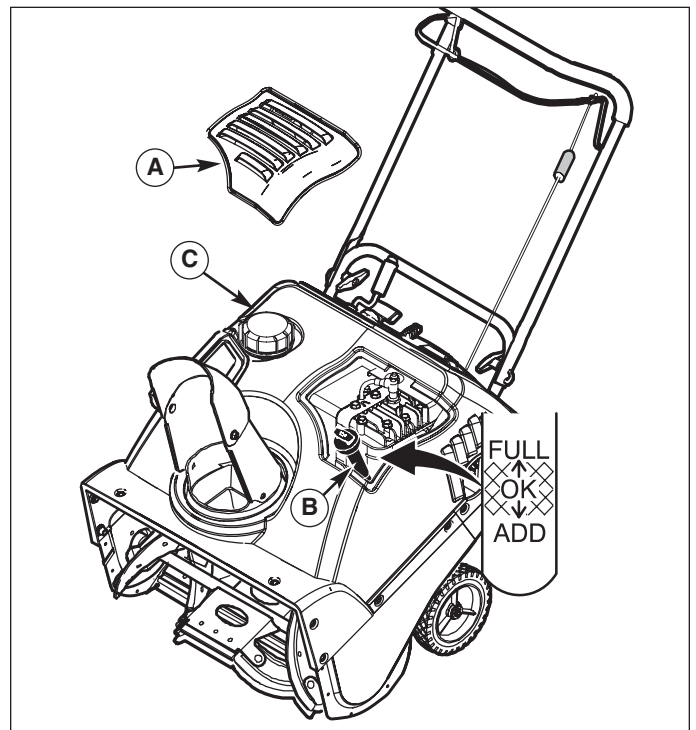

Figure 5. Add Engine Oil
2. Remove the oil fill cap/dipstick access panel (A, Figure 5).
3. Remove the oil fill cap/dipstick (B). Fill to the FULL mark on the oil fill cap/dipstick. Periodically check the oil level. **DO NOT OVER FILL.**
4. If not installed, install the fuel cap (C) onto the fuel tank.